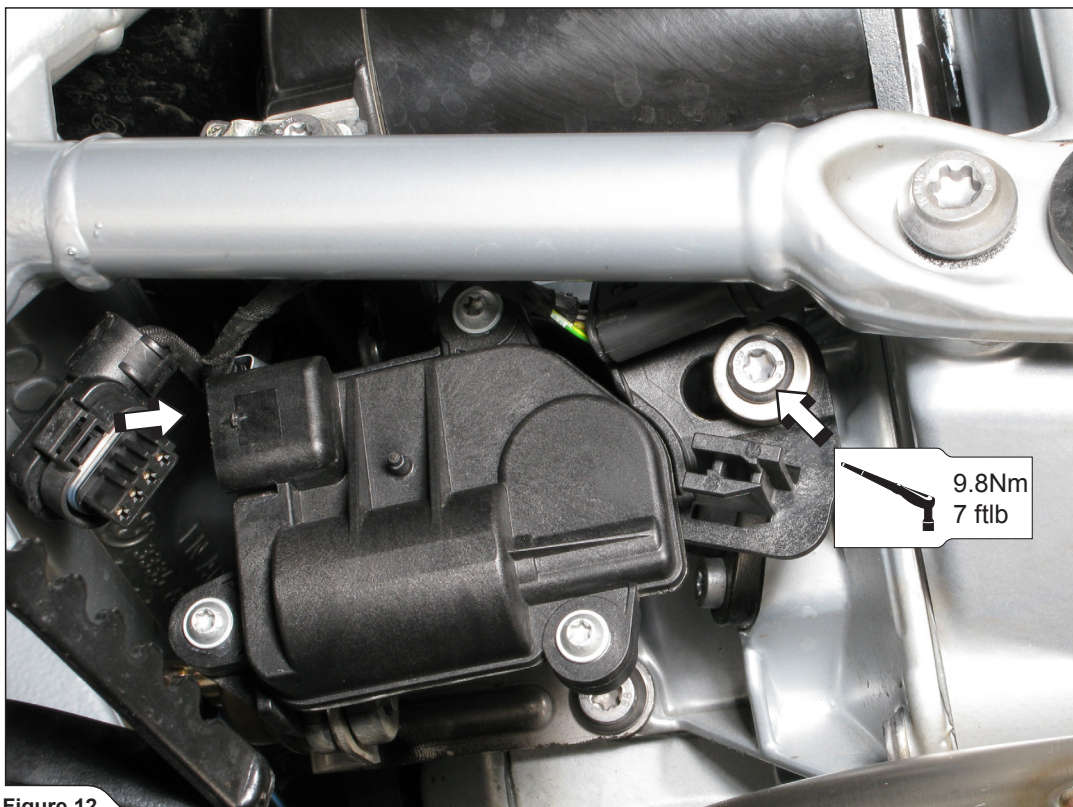

Figure 12
10. Reinstall the exhaust valve's servo, reconnect the servo's connector and hook the right cylinder's lambda connector back onto the servo's housing (Figure 12, 13).